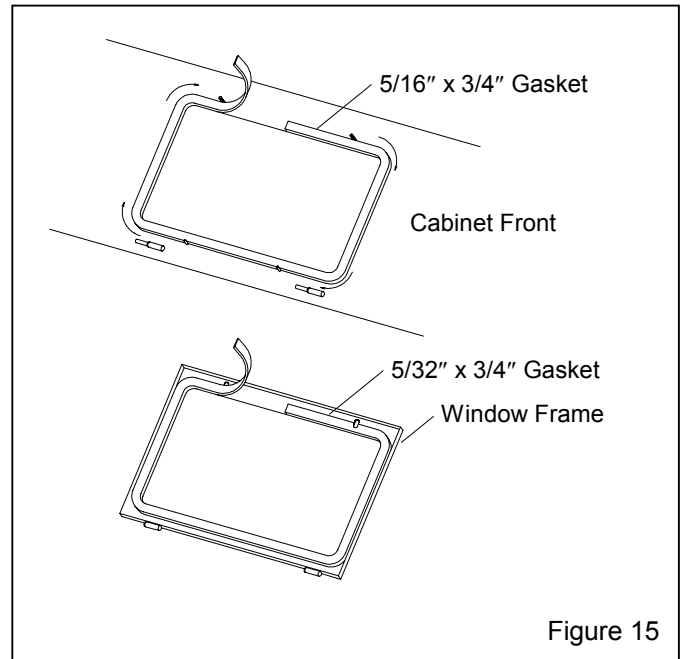

Figure 15
7.4 Window Gasket Replacement, Figure 15
7.4.4 Peel a short section of adhesive backing from the 5/16" thick strip gasket, and adhere the gasket to the center of the top edge of the window opening as shown in Figure 15. Peel additional backing as needed, and work the strip around the radius of each corner, pressing it tightly to bond. Trim the gasket to fit and compress the ends to seal.